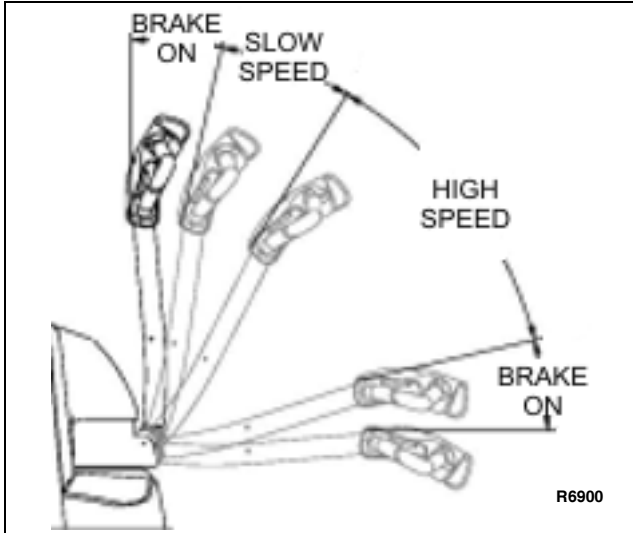

Figure 2-5. Brake Actuation
2. Lower the steering arm to a comfortable position above horizontal to disengage the brake and to energize the electrical circuits. If the truck is not moved, the electrical circuits will time out and will deenergize. See Figure 2-5.
4. To slow down or stop, release the speed control and lower or raise the steering arm to the horizontal or vertical position. See Figure 2-5. In those positions, the brake engages, slowing or stopping the truck.
2. **Steering arm (See Figure 2-5):** The brake is fully applied by lowering or raising the steering arm. (See Figure 2-5) All traction control power is shut off when the brake is engaged. When the steering arm is in the upright position, the brake acts as a parking brake. Deadman braking occurs when the handle is released and spring action raises steering arm to the upright position.